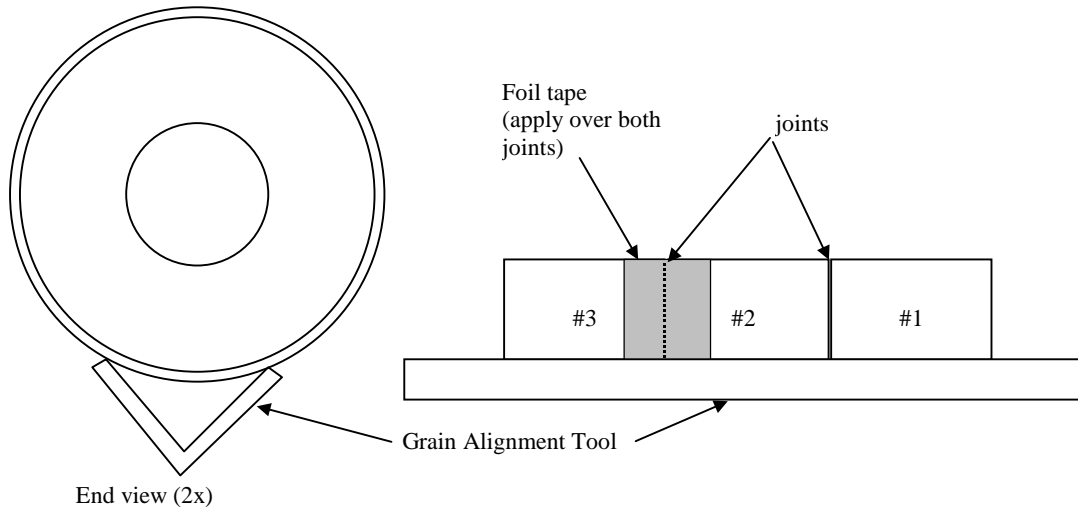

Figure 3 – Assembling propellant grain
Reference Figure 3
2. Place propellant segments #3 and #2 onto Grain Alignment Tool (T6), per Figure 3.
7. Repeat steps 2-6 for mating segment #1, per Figure 3.